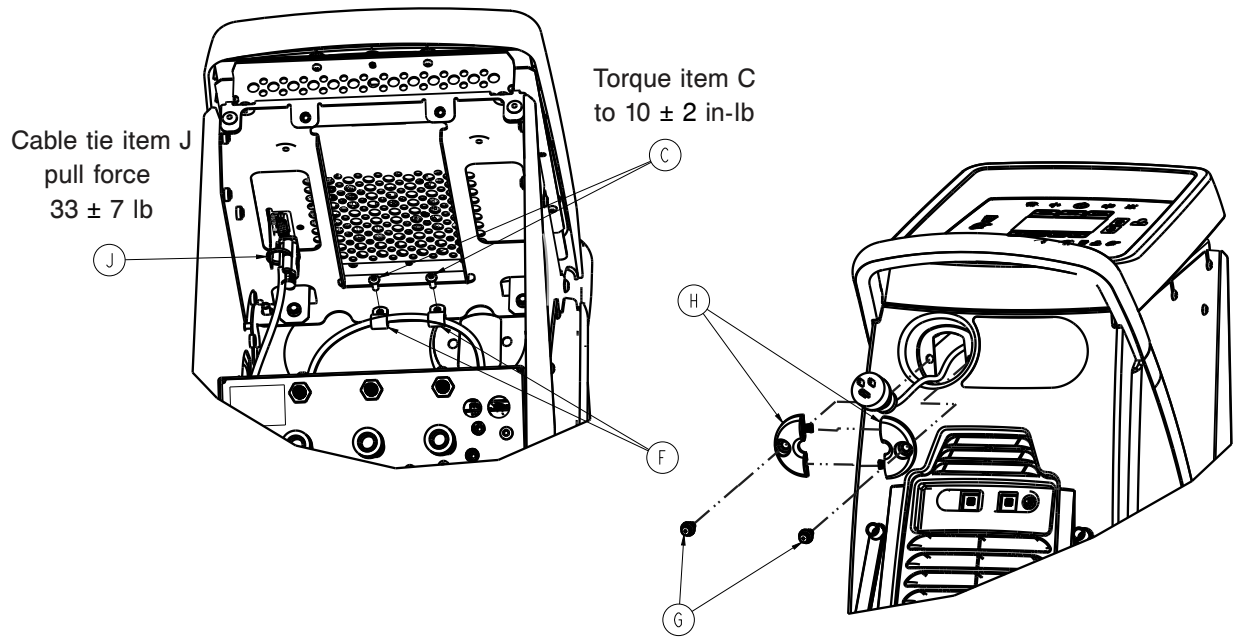

Figure 13 – Power cord to the top bracket
- Using a T25 Torx driver, remove the two screws (C) and cable clamps (F) that secure the power cord to the top bracket (Figure 13). Save the screws and cable clamps.